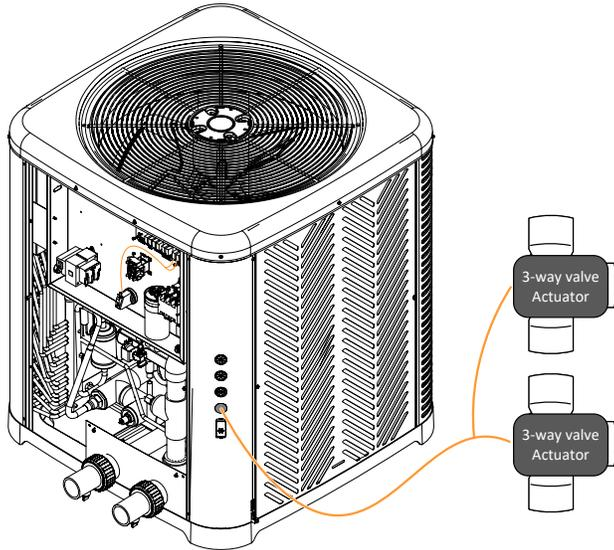

Figure 131. Wiring Valve Actuators
- Follow the general instructions for wiring external devices to connect the valve actuator(s) harness from the valves to the control board of the heater. See Figure 131.